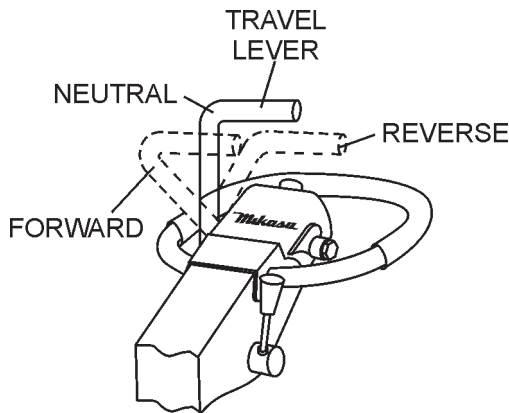

Figure 22. Travel Lever
3. To make the compactor move in the forward direction push the travel lever ( Figure 22) forward.
4. To make the compactor move in the reverse direction pull the travel lever ( Figure 22) backwards.